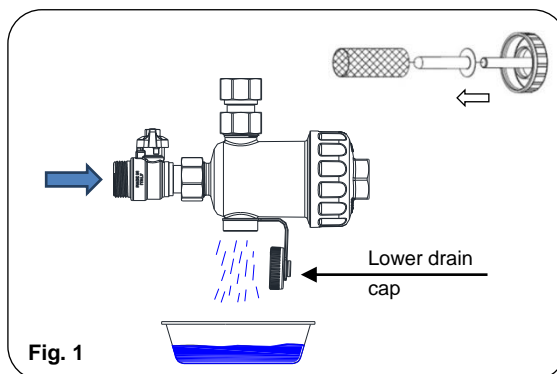
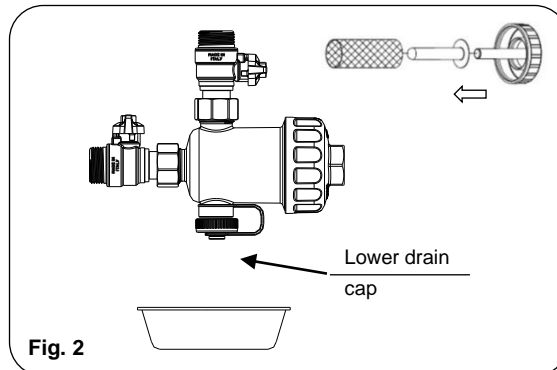
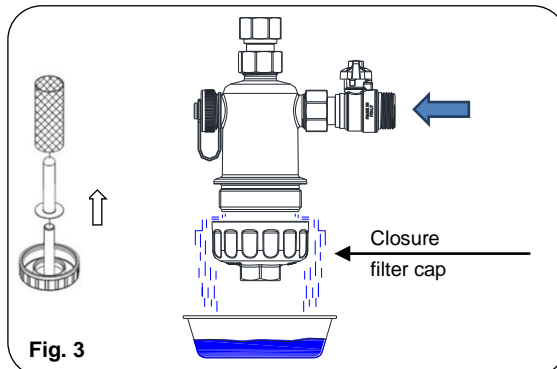
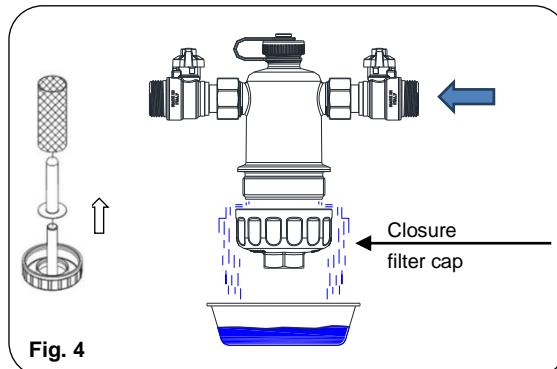

Fig. 1
Fig. 2
Fig. 3
Fig. 4
Carefully unscrew the lower drain cap. Water will gradually drain (**Fig. 1 / Fig. 2**).
In case of filter vertical installation (**Fig. 3 and Fig. 4**), directly unscrew the filter cap with the help of a 29 mm wrench.
N.B.: In installation configurations shown in **Fig. 2** and **Fig. 4**, by intercepting both the ball valves and by relieving the pressure in the filter by means of the drain cap, it is possible to completely remove the filter to facilitate maintenance operations.